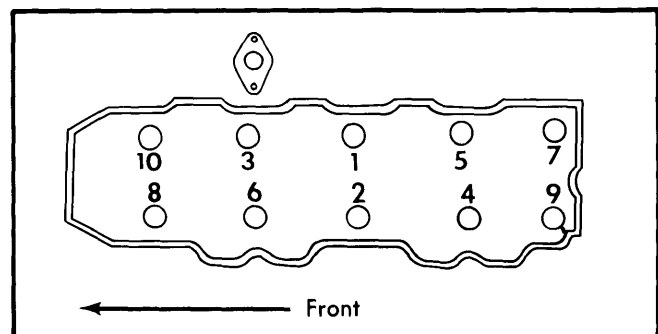

Fig. 1 Cylinder Head Tightening Sequence
sprocket retaining bolt and remove sprocket from camshaft, allowing sprocket and chain to rest in cylinder head. Remove chain cover bolt, then remove cylinder head bolts in reverse of tightening sequence (See Fig. 1).
3) Pry equally on front and rear of rocker arm assembly and remove same. Lift off cylinder head using care to clear locating dowels. Do not pry between cylinder head and block. To install, reverse removal procedure and note the following: Apply liquid sealer at two front corners of block. Make sure valve timing and clearance is correctly set. Tighten cylinder head bolts in three steps to specified torque and in sequence indicated (See Fig. 1). Set ignition timing statically at 8° BTDC, then reset with timing light.